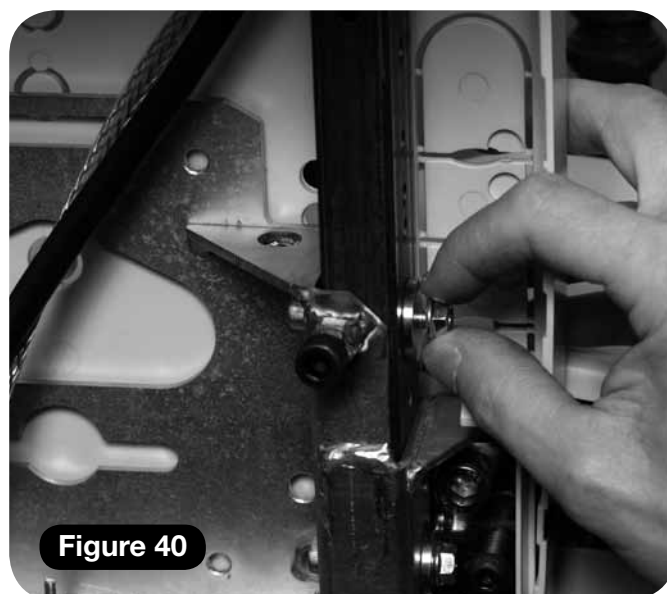

Figure 40
- 2 Load the seat base and feed the two seat post retaining bolts through the washers and the seat stems into the bottom front chassis; selecting the appropriate seat height for the client by using the holes corresponding to the height that is required (**Figure 40**).